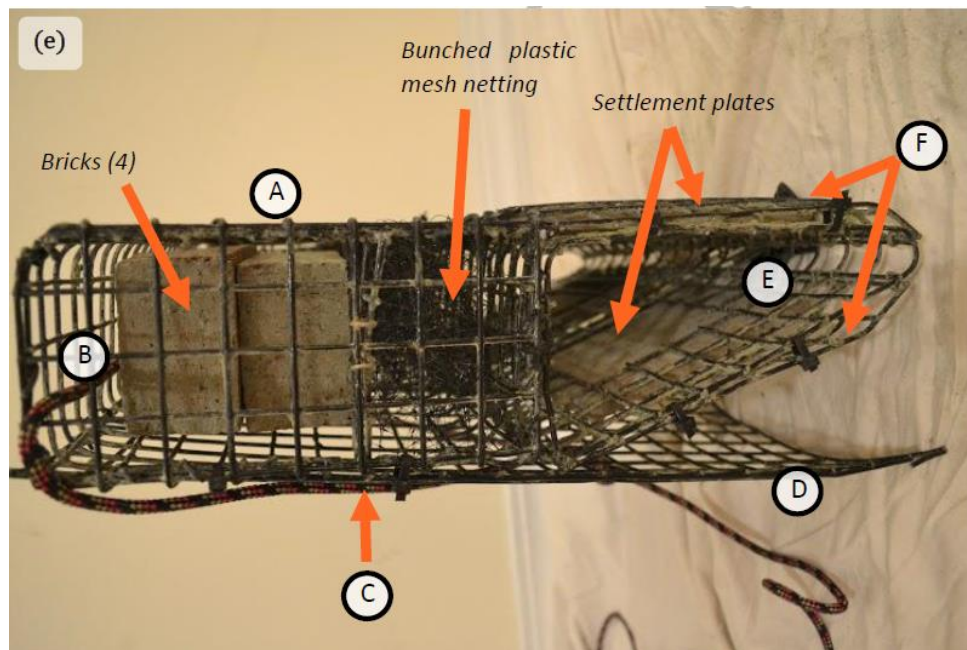

Figure 5. “Columbia” Colonizing Device.
**Phase 02** – “Columbia” Colonization Devices (Reid, et al., 2015) (Figure 5) will be used for determining colonization potential on various construction materials built into settling plates (*e.g.* Portland cement, porcelain tiles, oyster shells, rock, *etc.*). The settling plates will be modified to be larger than the original set up in Reid *et. al.* in order to try and avoid edge effects and distortions caused by over growth of dominant quick-colonizing species. The Devices will test for Ecological uplift as a function of biodiversity (Hill Numbers) and percent cover of sessile invertebrates and algae. Ecological uplift will further be tested by the total number and identification of sessile and motile organisms counted and identified in the middle chamber that will house oyster shell and rock of the same origin as the rip rap used throughout edge water reconstruction. This is also a modification of the original Reid *et.al.* design. In the top compartment, instead of bricks, a ceramic pot filled with local sediment (and sand brought in from Brooklyn Piers Park) and planted with eel grass. Blade length average and new shoots will be monitored. Clear PVC sedimentation cylinders will be attached to the Devices to measure sedimentation rates. A light/temperature data logger will be deployed at the top of the Site 02 Device.